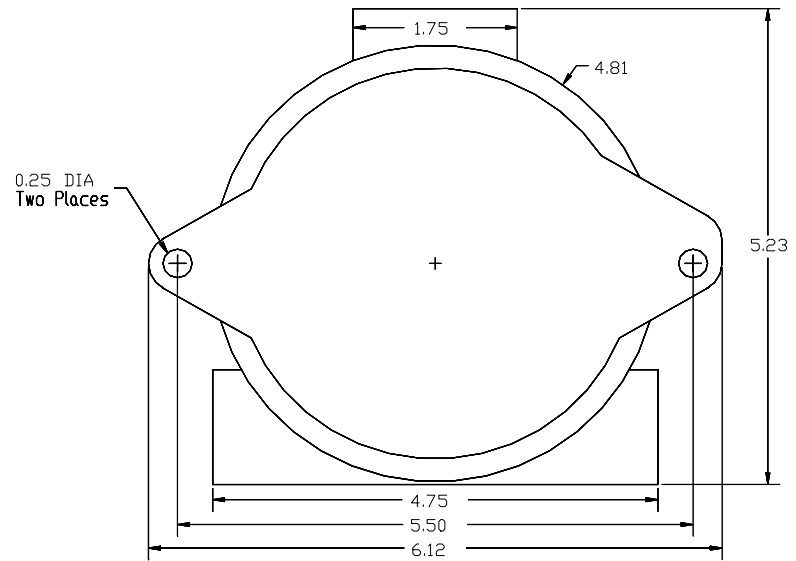

Figure 4. Model SS2 Detector Enclosure - Back View
- b. Connect the 24-volt D.C. Power Supply wires to the J1 connector and firmly tighten down the two slotted screws with a small screwdriver. **DO NOT CONNECT ANY WIRES TO J1-Pin 2 or J1-Pin 3.** Do NOT over tighten to prevent stripping or breaking. (See Figure 4 above.)